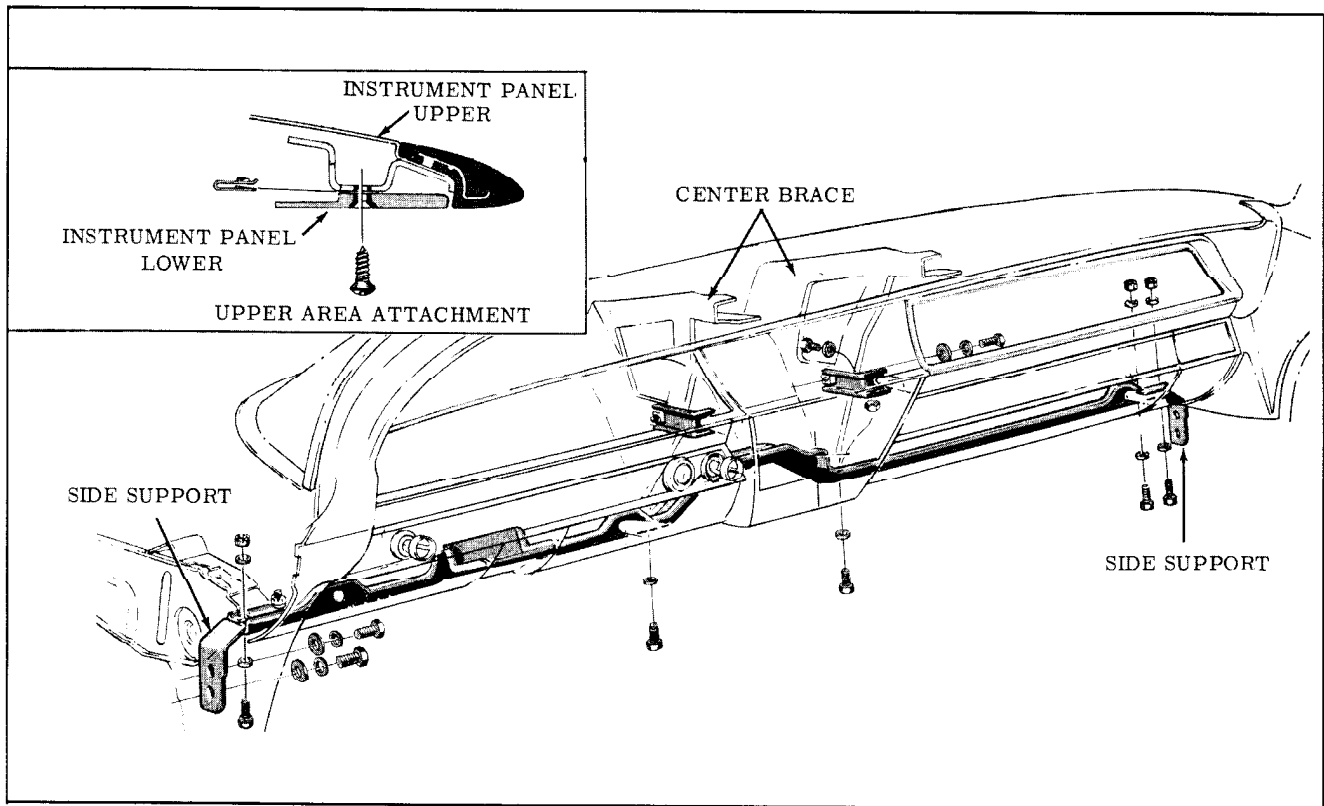

Fig. 15-1 Instrument Panel
4. Remove instrument panel attaching screws. (Fig. 15-1)